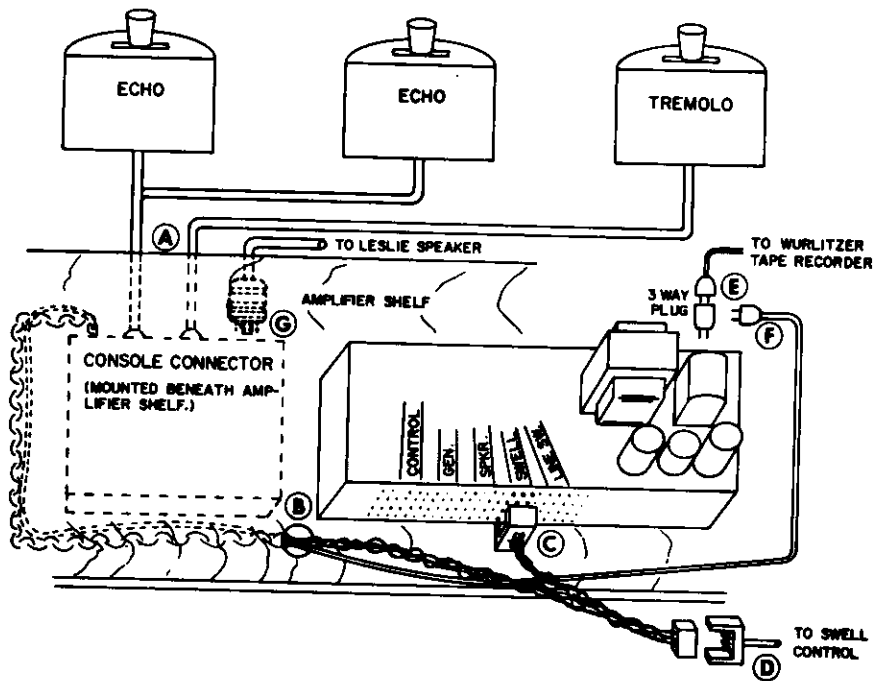

Figure 1. Interconnections
5. Insert the echo and tremolo control plugs into matching console connector sockets. (See "A" on Fig. 1.) Echo plugs are interchangeable and may be inserted into either of the five-contact sockets.
6. Run the console connector SWELL interceptor through the access hole in the main/tibia amplifier shelf. (See "B" on Fig. 1.)
7. Detach the Molex SWELL plug from the SWELL socket on the main/tibia amplifier. (See "C" on Fig. 1.)
8. Insert the plug end of the console connector interceptor into the vacated SWELL socket. (See "C" on Fig. 1.)
9. Insert the Wurlitzer SWELL plug into the socket end of the console connector interceptor. (See "D" on Fig. 1.)
10. Pass the console connector AC plug through the access hole in the Wurlitzer amplifier shelf. (See "B" on Fig. 1.)
11. Disconnect the tape recorder power plug from its main/tibia amplifier socket. Insert it into the 3-way plug provided. (See "E" on Fig. 1.)
12. Insert the console connect AC plug into one of the vacant sockets on the 3-way plug. (See "F" on Fig. 1.) Insert the 3-way plug into the AC socket on the main/tibia amplifier.
13. Connect the 9-conductor cable supplied in the kit to the LESLIE SPEAKER socket on the console connector. (See "G" on Fig. 1.)